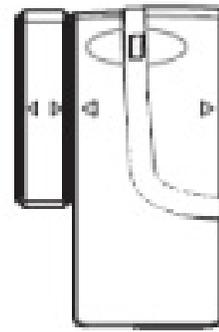

Fig.2
- Low battery indication: If the batteries need to be replaced, the RED LED on the transmitter will flash slowly (Fig. 2)